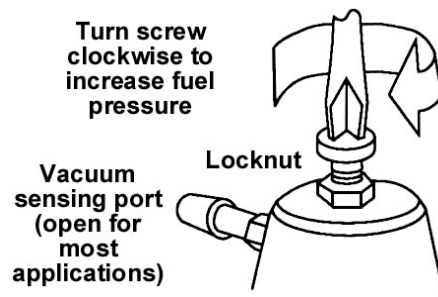

Figure 4
- Before starting the engine, loosen the adjusting screw locknut. Carefully turn the screw (clockwise), until it stops (Figure 4).